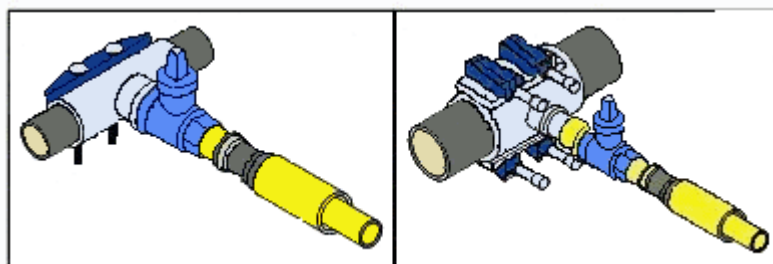

Figure 20 - Example – Service connection to an Encirclement Fitting
- Attach the correct size full encirclement fitting onto the main and tighten using a torque wrench as per manufacturer's instructions (Figure 20).
11. The main can be drilled using a long reach drill (as shown in Figure 22) which is connected to the outlet thread/flange of a full-bore valve fitted to the tapped boss of the fitting (as shown in Figure 20).